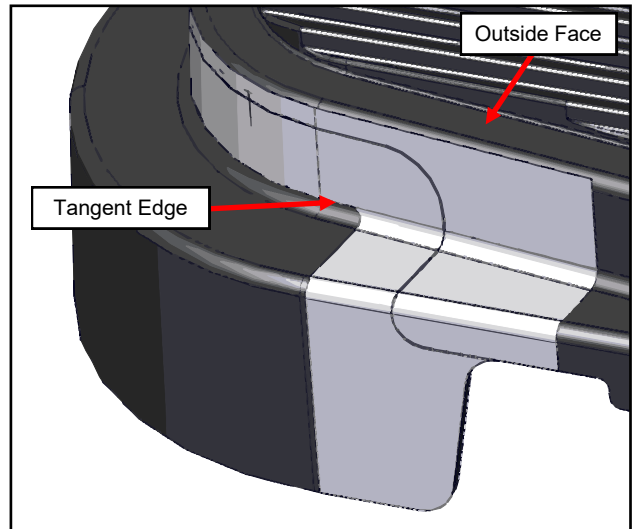

Fig. 3.12 (Fold Trim Template Decal)
- 3.12 Fold the decal over the edges of the belt cover and then wrap it around to the other side. See figure 3.12. One edge of the decal should run along the tangent edge of the inner belt cover corner, while the other edge should be about even with the outside face of the belt cover.